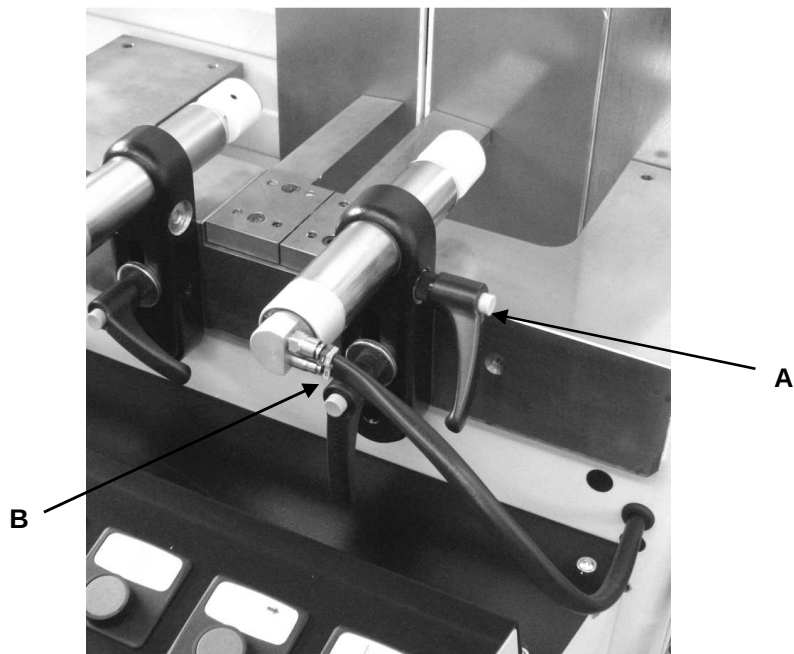

Fig. 10-08
10.4 FITTING A NEW VICE CYLINDER (Fig. 10-08)